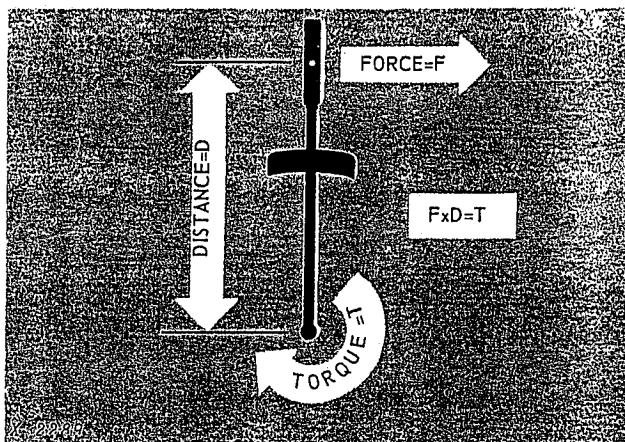

Fig. 36 — Formula For Torque
**TORQUE** is based on the fundamental law of the lever — **FORCE X DISTANCE = TORQUE**. This is shown in Fig. 36.